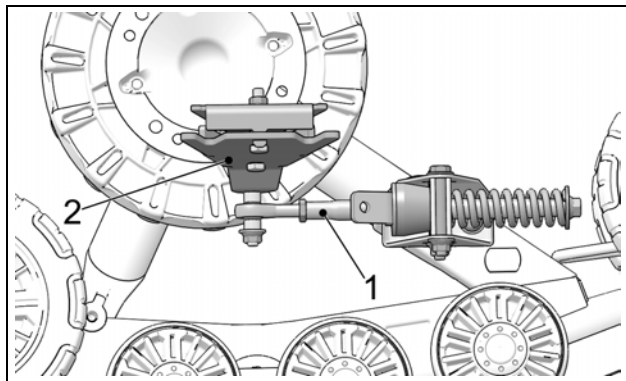

Figure 4
- Stabilizing arm (1) must be attached to the front anchor bracket (2) installed on the vehicle. See Figure 4.